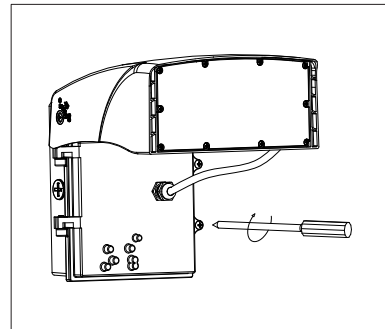
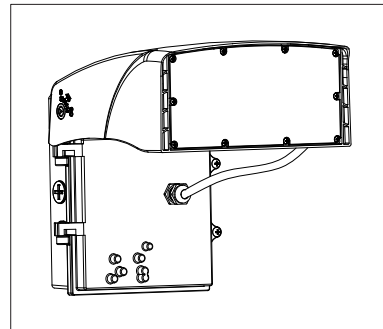

Figure 12
Figure 13
STEP 8: Well organize the line and tighten the screws of the lamp base (Figure 12 & Figure 13)